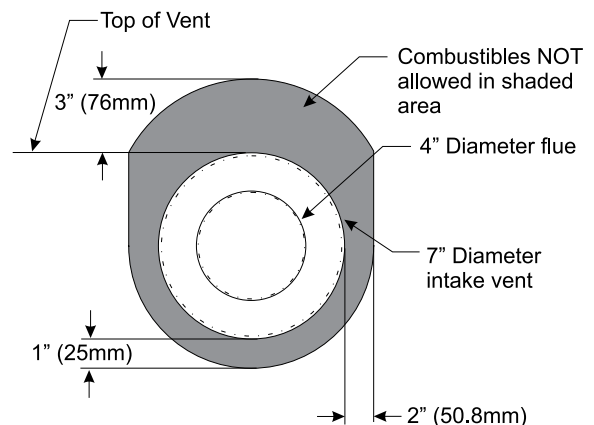

Figure 47
5. Install the Wall Firestop/Thimble assembly as required through the wall. Refer to the venting charts in the fireplace manual to determine the proper height and size of the vent opening. The minimum opening should be 11" wide by 11" high. The minimum combustible clearance from the horizontal vent is 2" from sides and bottom, and 3" above the vent pipe. **See Figure 47.**